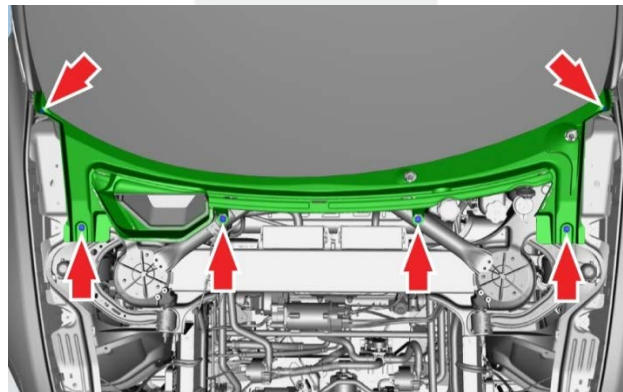

Figure 3
5. Remove the 6 scrivenets that hold the cowl screen panel to the body (Figure 3), then remove the cowl screen.